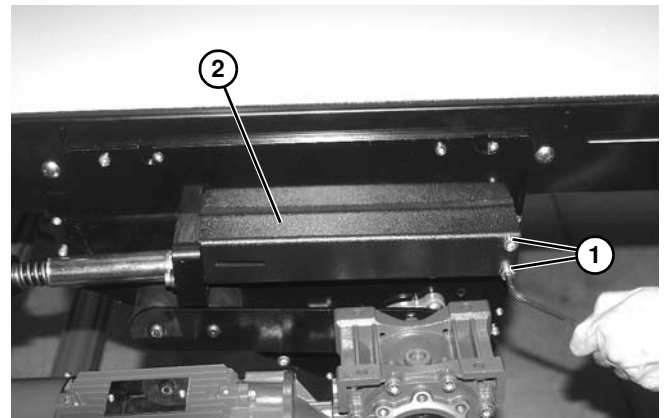

Figure 166
1. Remove two screws (**Figure 166, item 1**) and channel guard (**Figure 166, item 2**) from each side of center drive.